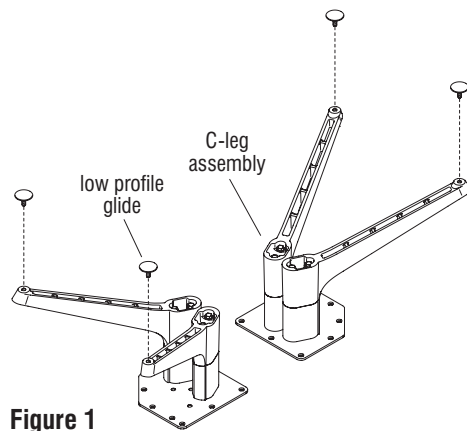

Figure 1
1. Carefully place the C-leg assemblies upside down on a soft, protective surface (Figure 1).
2. Thread the stem of each glide into a threaded insert at the underside of each foot by hand (Figure 1).